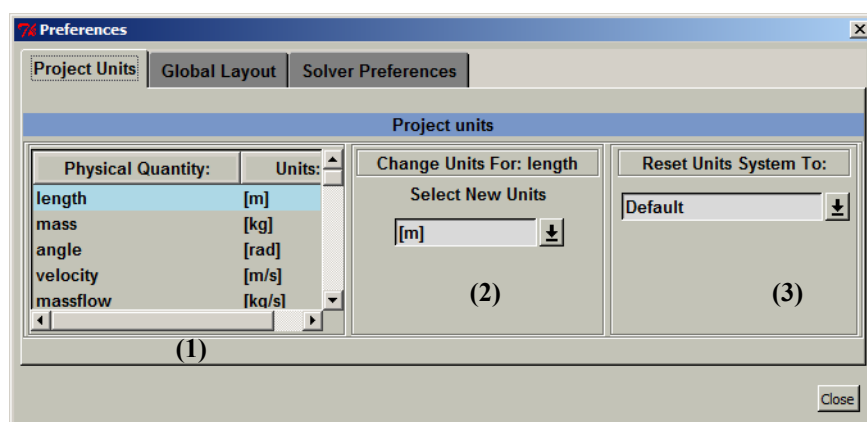

FIGURE 2.3.1-7 Project Units in the Preferences Window
In this section the user can change the units system of the project. The units can be changed independently for a selected physical quantity or for all of them at the same time. To change the units for one specific quantity select the quantity in the list (see (1) in Figure 2.3.1-7). Then select the unit under **Select New Units** (2). To change the units for all physical quantities at the same time use the box **Reset Units System To** (3).